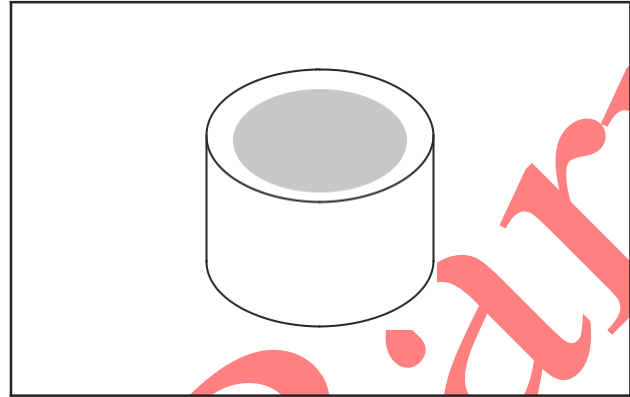

Fig. 23 – Check Valve Stem Cap
4. Inspect valve stem cap for wear, Fig. 23.